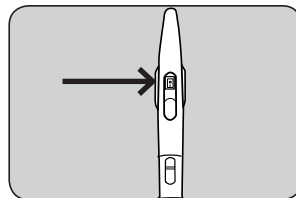

Fig. 1
2. The power nozzle On/Off switch is located on the handle. Simply press the switch forward to engage the power nozzle (Fig. 1).